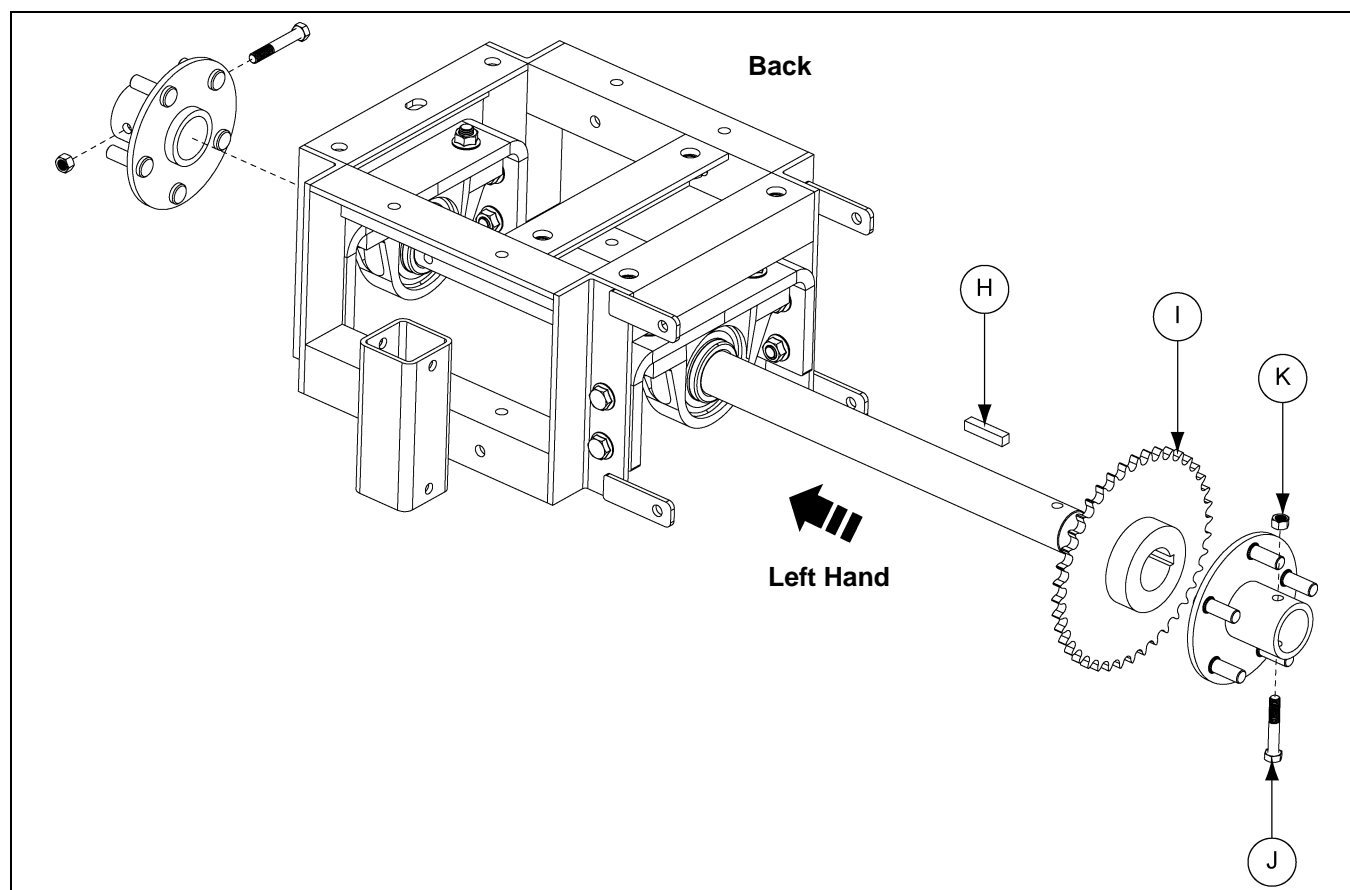

Figure 4Q
- Assemble the 40 tooth sprocket (I) to the tractor axle using a 3/8" square x 1-3/4" key (H). Temporarily tighten the sprocket to the key and the shaft. Final adjustment of the sprocket placement will occur after the chain is installed.
- Mount the wheel hubs to the tractor axle using 3/8"-16 x 2-1/2" hex head cap screws (J) and stover lock nuts (K). (See Figure 4Q.)